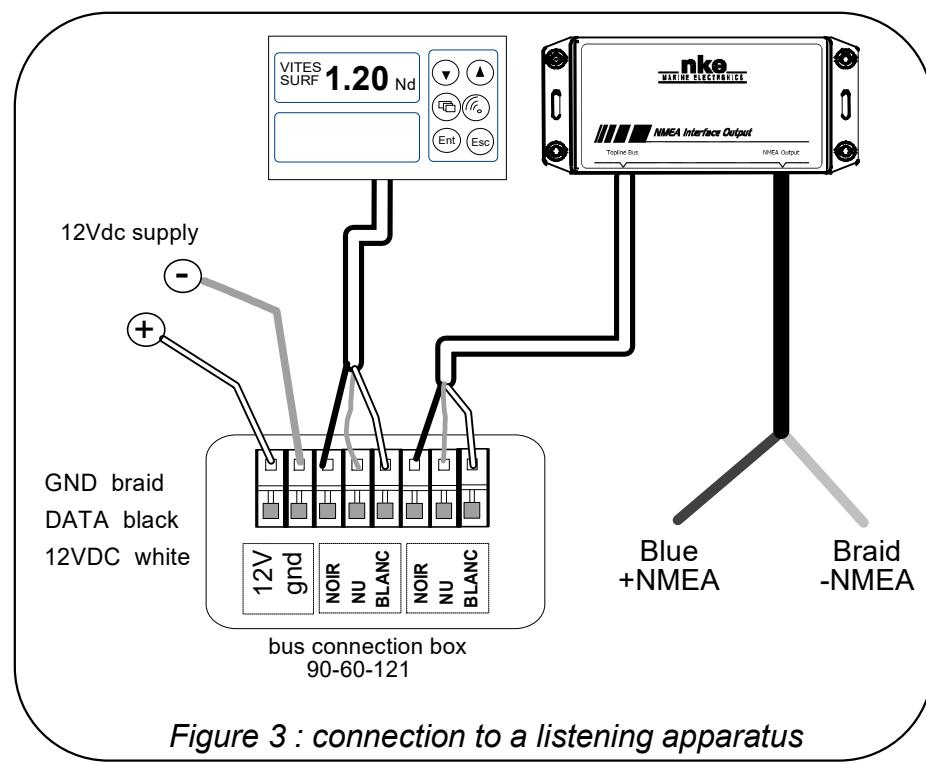

Figure 3 : connection to a listening apparatus
- Connect the bus cable inside the terminal box as shown in Figure 3.